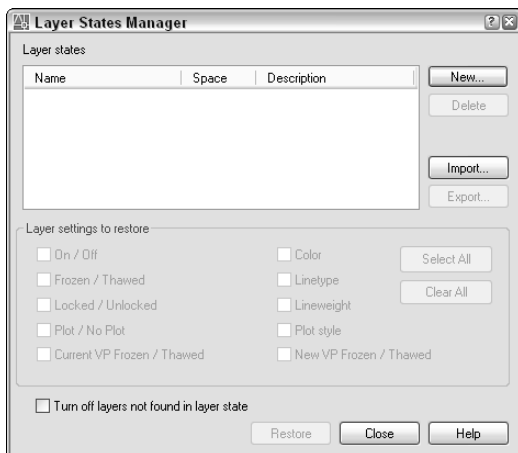

**Figure 11-11:** The Layer States Manager dialog box.
3.  In the Layer Properties Manager, click the Layer States Manager icon to open the Layer States Manager dialog box, shown in Figure 11-11.